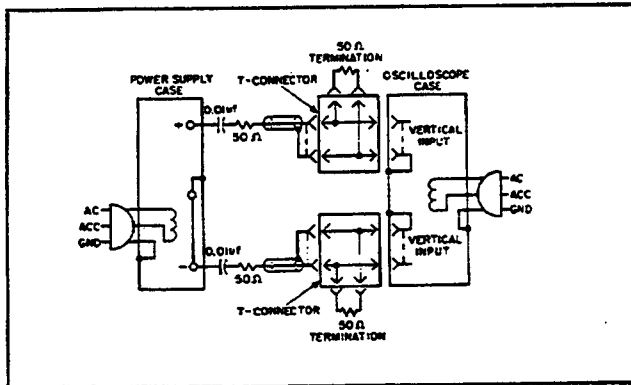

Figure 5-7. CV Noise Spike, Test Setup
1. As shown in Figure 5-7, two coax cables, must be substituted for the shielded two-wire cable.
5-33 The circuit of Figure 5-7 can also be used for the normal measurement of low frequency ripple and noise; simply remove the four terminating resistors and the blocking capacitors and substitute a higher gain vertical plug-in in place of the wide-band plug-in required for spike measurements. Notice that with these changes, Figure 5-7 becomes a two-cable version of Figure 5-6C.